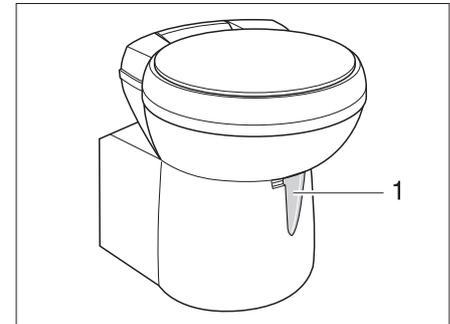

Fig. 103 Thetford toilet bowl, swivelling
- ▶ Before flushing open the sliding trap of the Thetford toilet. To do this, push the slide lever (Fig. 103,1) anticlockwise.
- ▶ Open the sliding trap. To do this, push the slide lever (Fig. 103,1) anticlockwise.
- ▶ Push the slide lever (Fig. 103,1) in a clockwise direction. The sliding trap is closed. To empty, the sliding trap in the Thetford toilet **must** be closed.